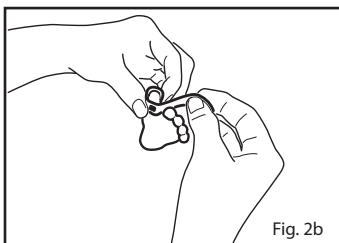

Fig. 2b
3. Refer to **Fig. 2b**. Wrap the adhesive wrap around the toe so the emitter is positioned on the nailbed of the great toe. Complete coverage of the detector window is needed to ensure accurate data.